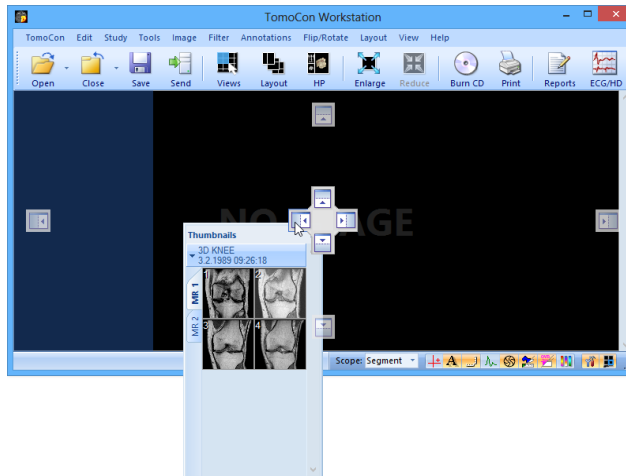

Figure 26 – Docking thumbnails palette to the left edge of TomoCon
2. Move the panel over the left docking navigator . A new docking position for the thumbnails palette will be displayed in translucent blue (see Figure 26).